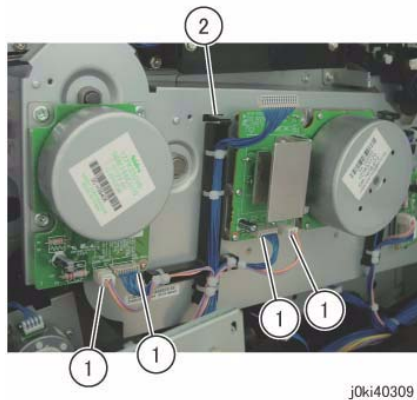

Figure 1 Move the Harness Holder
7. Move the Harness Holder. (Figure 1)